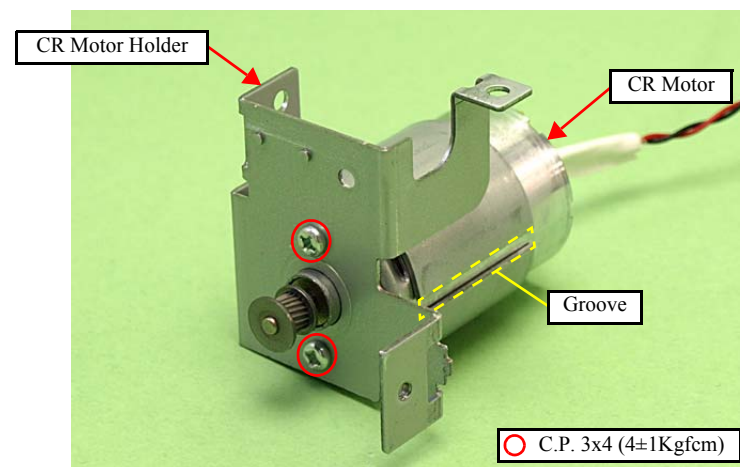

Figure 4-127. Removing the CR Motor (3)
- When installing the CR Motor, install it with the groove of the CR Motor as shown in Fig. 4-127.